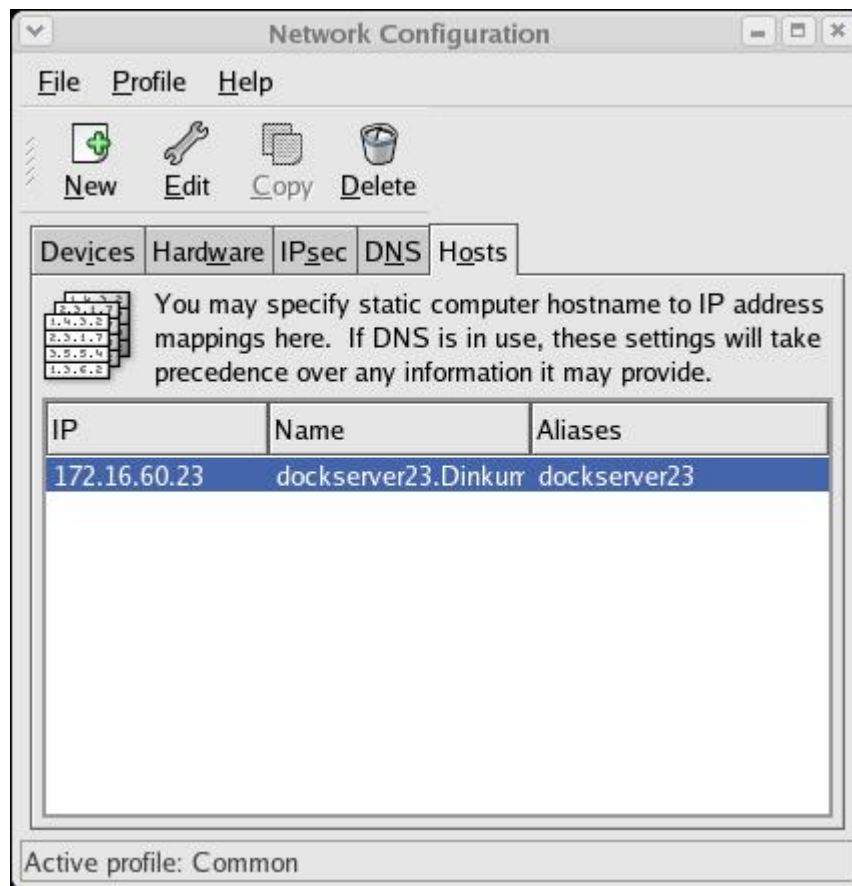

Figure 1-3. The Network Configuration Dialog.
4. Enter the root password and click the OK button. The “Network Configuration” dialog opens (Figure 1-3). Appendix D specifies the factory delivered root password for your Dock Server.
Figure 1-3 shows the one host entry selected. Note, the host entry shown in this figure may not match the one in your Network Configuration dialog.